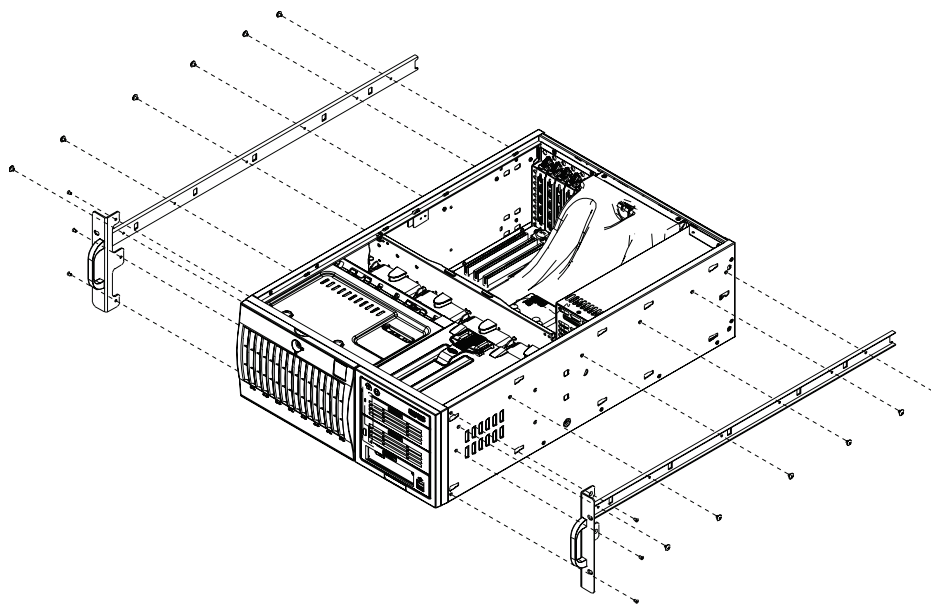

Figure 45. Installing the Rails onto the Recorder Frame
5. Align each inner rail (with the rack handle attached) to the screw holes located on the left and right side of the recorder. Secure the rails to the sides of the recorder frame (see figure 45).